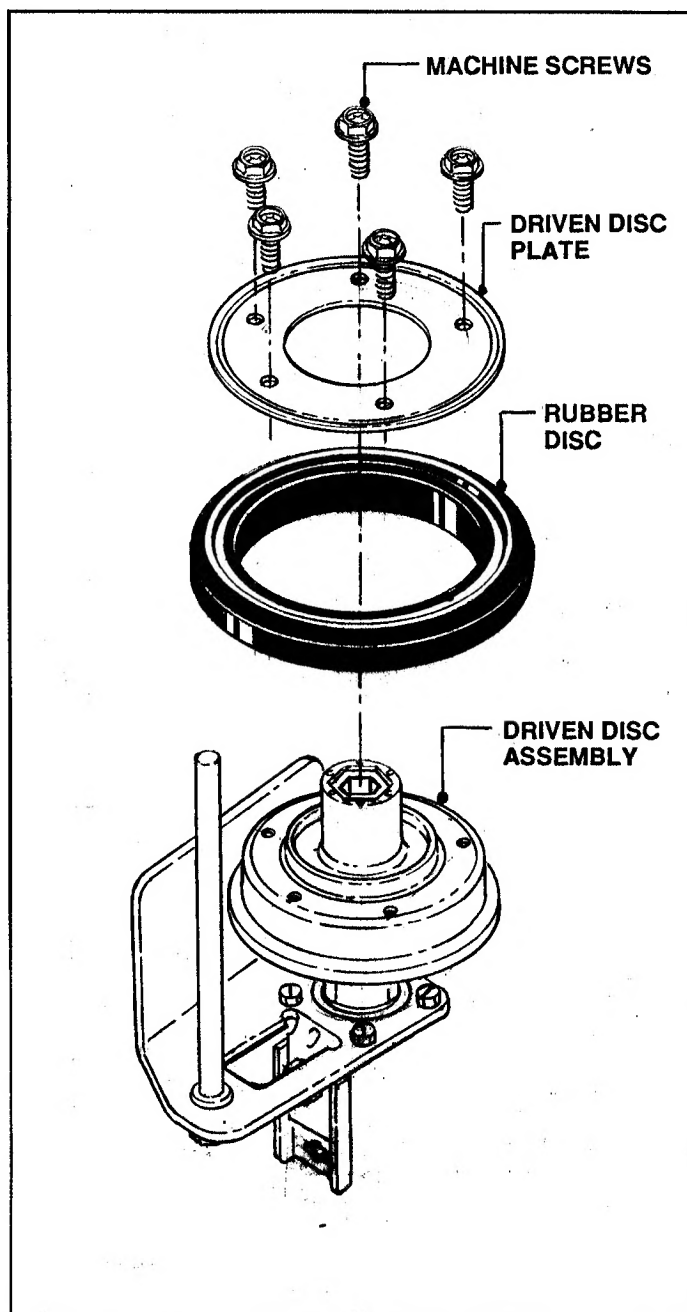

FIGURE 2.11
3. Remove the five machine screws from the driven disc plate. See Figure 2.11.